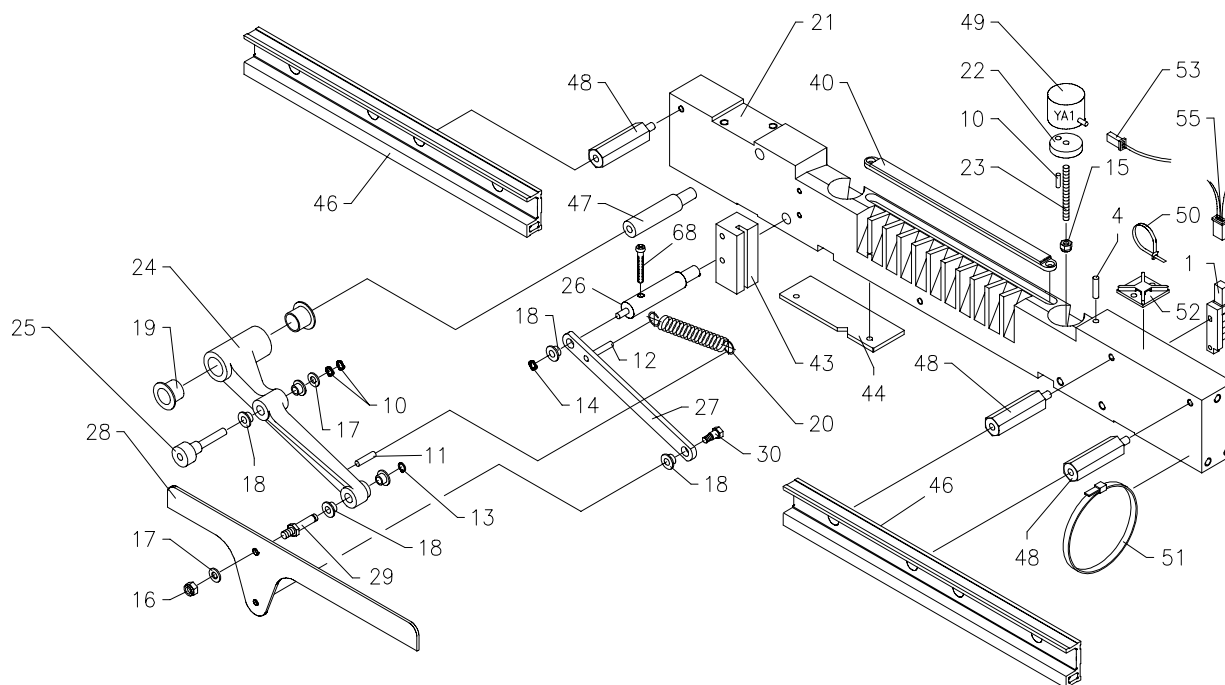
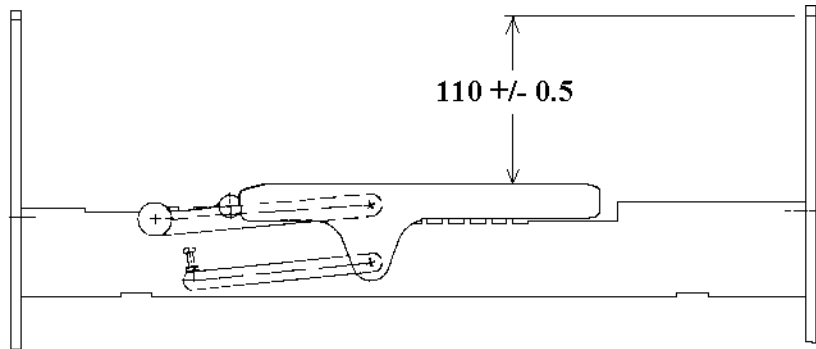

Figure 7-39
Figure 7-40
To replace a broken or bent film lift lever, proceed as follows (Refer to Figure 7-39):
2. Disconnect the film lifter tension spring (Item 20, Figure 7-39).
3. This distance should be  $110 \pm 0.5$  mm on both ends see Figure 7-40. If these measurements are not correct, loosen the retaining nut (Item 16, Figure 7-39).
3. This distance should be  $154.5 \pm 0.5\text{mm}$  (See Figure 7-41). If this measurement is not correct, loosen the jam nut holding the stop screw (Item 68, Figure 7-39) in place.